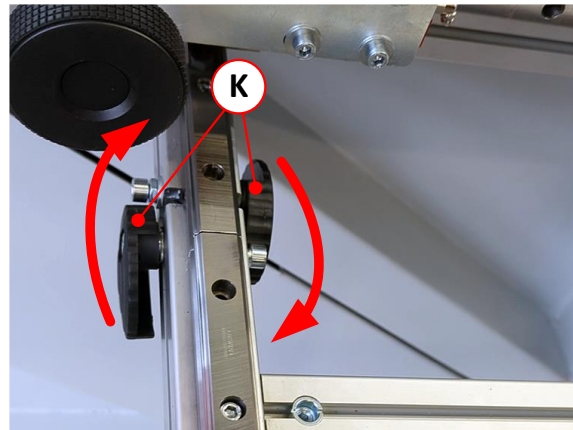

Figure 14: Clamping wheels for locking
8. Fasten the disconnected element to the fixed element by swivelling the two clamping wheels (K) on the left and right sides of the element in the direction of the arrow (see ⇒ Figure 14).
**Remark:** The following steps 9. to 11. are to be carried out only once (during initial installation). After that, the attachment and removal for changing the saw blade is simply done by opening/closing the locks on the clamp wheels (K), which are located on the side of the guides (see ⇒ Figure 14).